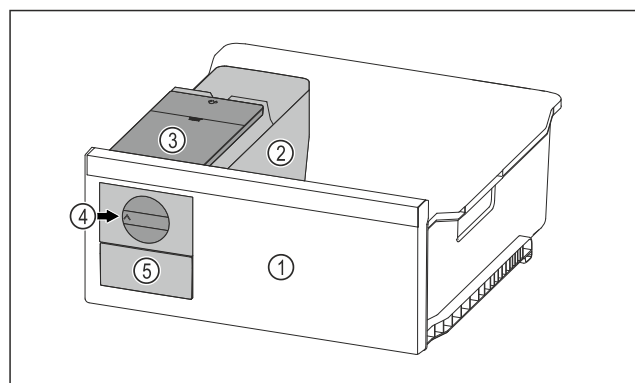

Fig. 70 Example illustration
- ▶ Turn the rotary knob Fig. 70 (4) clockwise as far as it will go.
- ▷ Ice cubes fall from the ice cube tray into the ice cube drawer Fig. 70 (5).